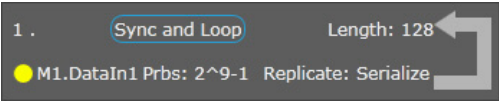

Figure 40 Analyzer setup information
- e The **Analyzer** block should now display the setup information as shown in Figure 40 on page -86.